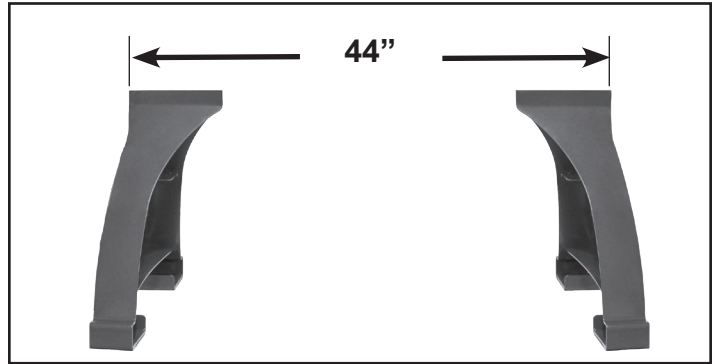

FIG. 4
1. Position the two Legs (O) approximately 44" (1118mm) apart measuring from the outside edges. Be sure that the shelf brackets on the legs are facing inward, towards each other. Figure 4.